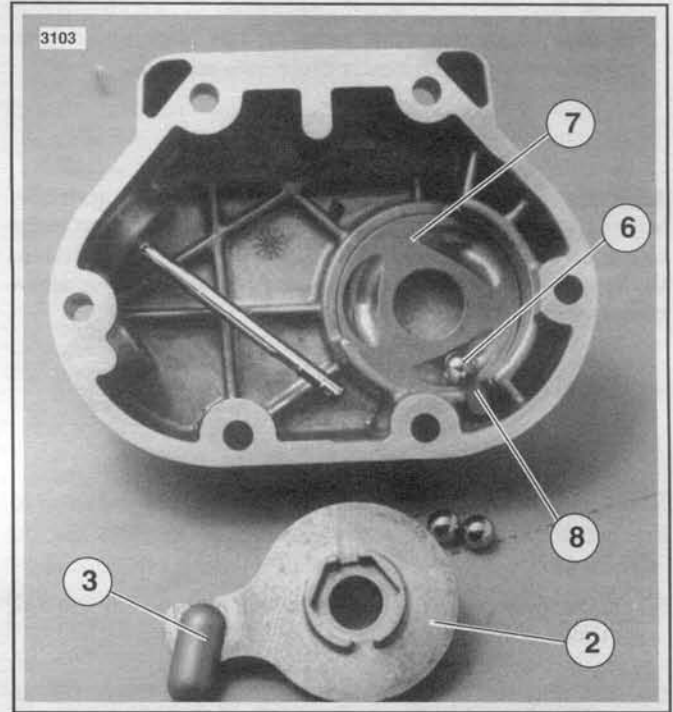

Figure 7-13. Ball and Ramp Mechanism With Inner Ramp and Coupling Removed
4. Unscrew cable fitting (5) from clutch release cover.
5. See Figure 7-13. Remove balls (6) and outer ramp (7).
See Figure 7-13. Retaining ring opening must be installed to the right of the outer ramp tang (8) slot.